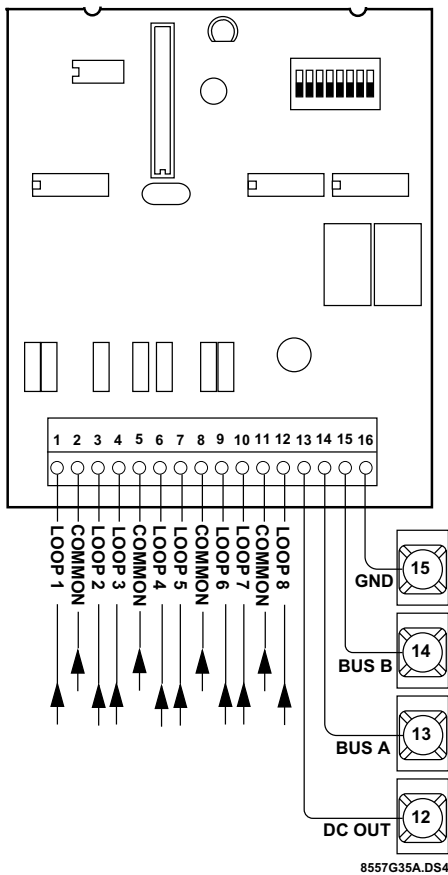

Figure 4. Connecting the HIM to the UltraGard Panel
3. Wire the HIM to the panel (see Figure 4).